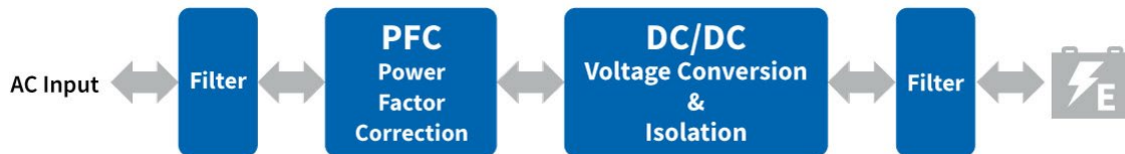

Figure 1: Basic structure of an EV charging system
In both cases, the basic structure of the charger is the same (Figure 1). AC feeds into a power factor correction (PFC) stage that is linked to a DC/DC converter to supply the voltage required by the charging circuitry. Regardless of OBC or fast DC design, many of the requirements are the same. Efficiency is critical to minimize heat dissipation as well as save energy, with designers aiming for better than 99%, along with a target of > 0.9 for the power factor (PF). Design density, which translates to the dimensions of the end solution, and weight are further factors. This helps vehicle designers to